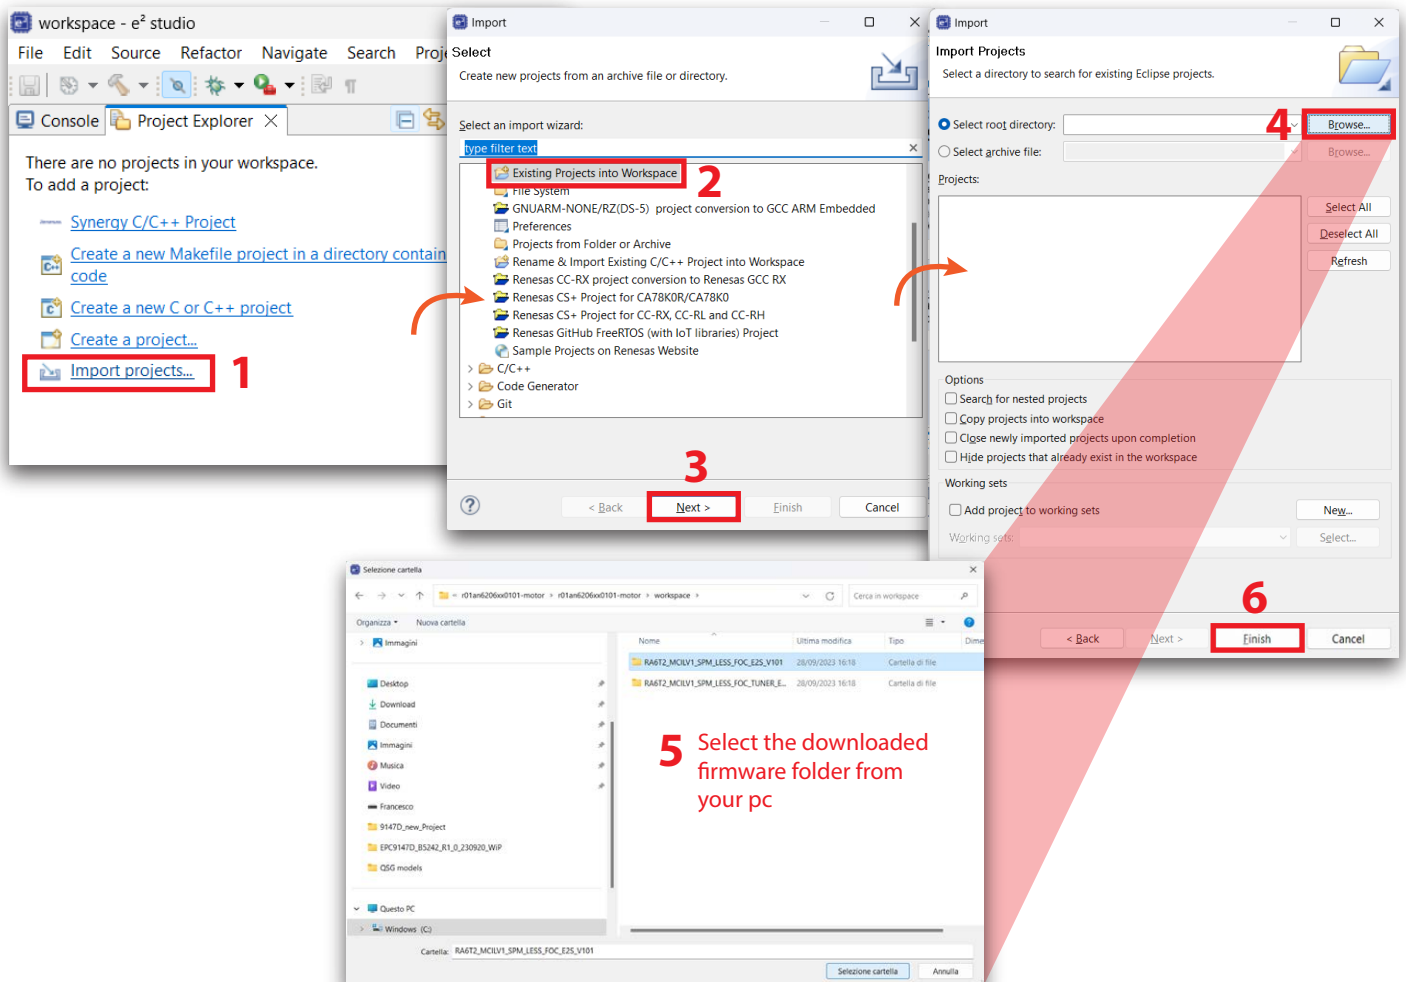

Figure 11: Project import window
4. Import the firmware project into the **e² studio** workspace, as shown in figure 11: